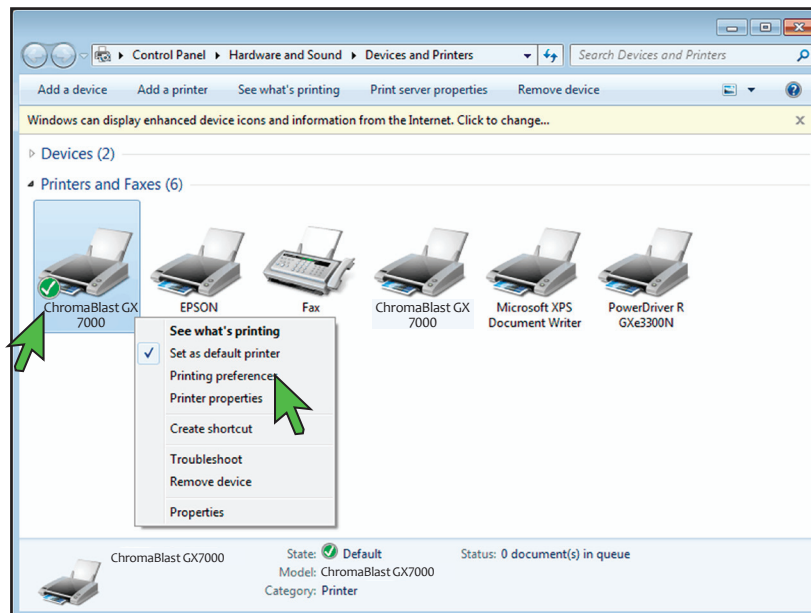

FIGURE 2
2. In the Devices and Printers folder, right-click the **ChromaBlast-R Driver GX7000** and select **Printing Preferences** (see *FIGURE 2*). This will open the ChromaBlast-R Driver GX7000 Printing Preferences window (see *FIGURE 3*).